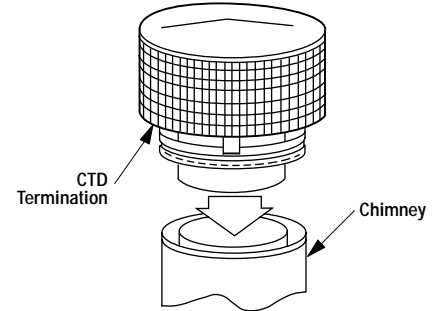

Figure 33
1. Hold the FTF8-CTD over top of last chimney section (**Figure 33**).